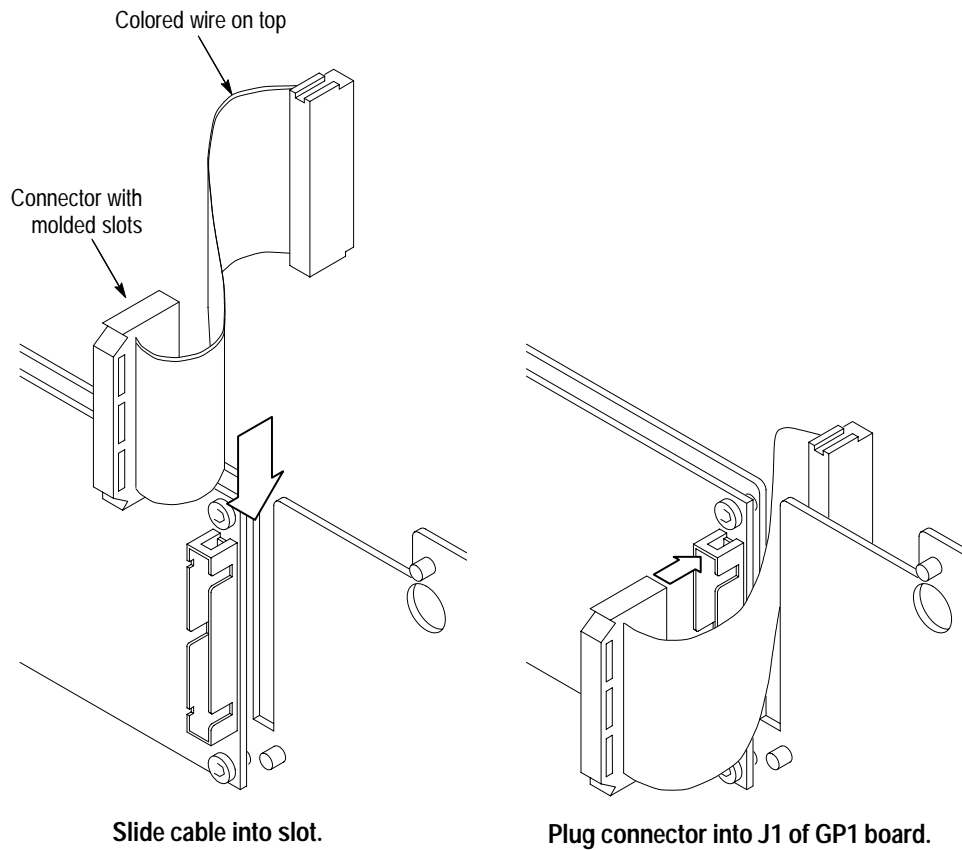

Figure C-4: Installing the CPU ribbon cable
6. Remove the ribbon cable from its bag, slide it into the slot near J1, and plug the connector into J1. The colored wire must face the top edge of the module. See Figure C-4.